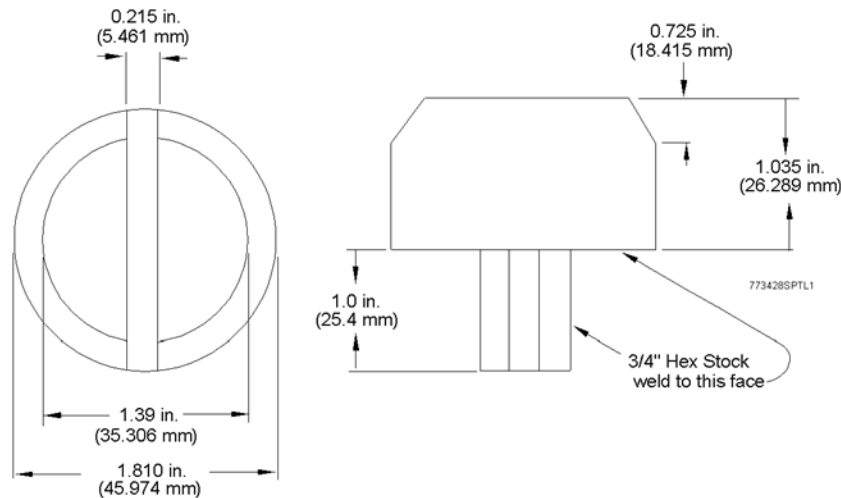

Figure 10: Emergency Portion Strainer Nut Wrench
- 5.2.11 For portions mounted on a single sided pipe bracket, install a new filter element into the pipe bracket located behind the emergency portion. A wooden mandrel will assist in guiding the filter into proper position. Make certain that the mandrel's inner end is engaged with the sealing bead (if inserted properly, all of the threads will be visible). Install the strainer nut and tighten it firmly using emergency portion strainer nut wrench (See Fig. 10).